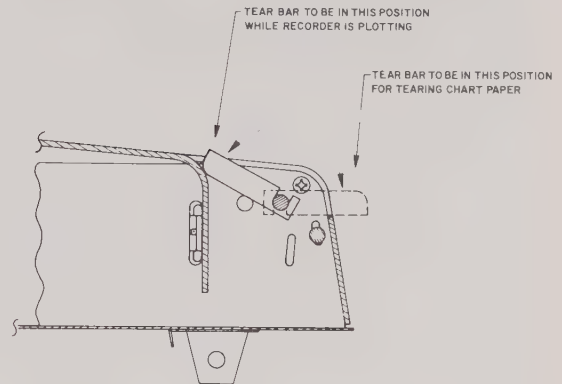

FIGURE 2-6
After loading paper and pens the recorder is ready to operate. Lift tear bar as shown in Figure 2-6.
- **TO TEAR OFF PAPER** move tear bar to the active position (See Figure 2-6) press finger firmly on center of the tear bar and briskly tear.